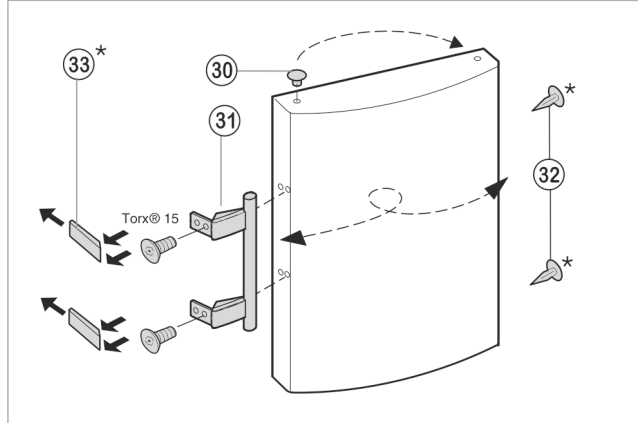

Fig. 8
- ▶ Lift the plug *Fig. 8 (30)* out of the door bearing bush and re-locate.
- ▶ Dismantle the door handle *Fig. 8 (31)*, plug *Fig. 8 (32)* and pressure plates *Fig. 8 (33)*, and re-locate to the opposite side.